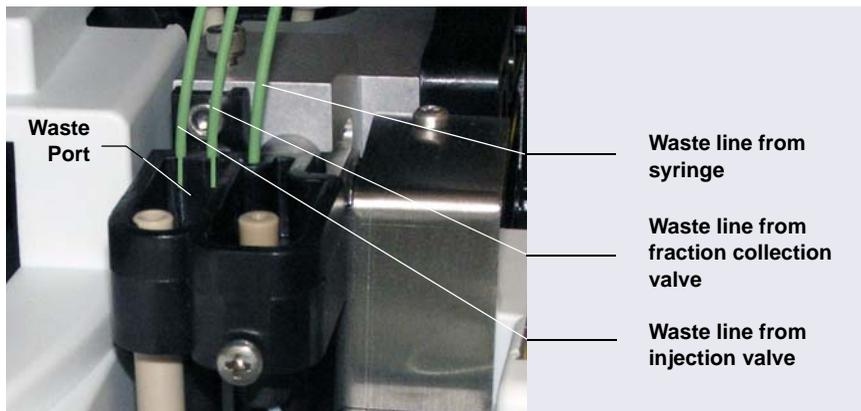
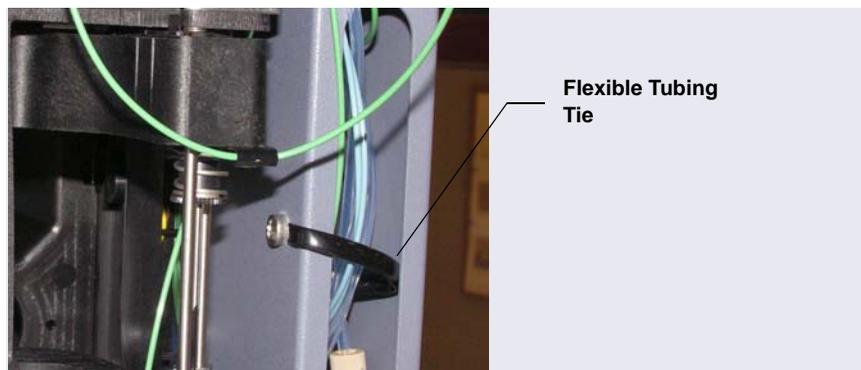

Figure D-7. Waste Lines Installed in the Waste Port
Figure D-8. Flexible Tubing Tie in Slotted Compartment
10. Route the waste line to the Dionex AS-AP waste port and insert the line into the round opening in the port (see Figure D-7). To ensure the waste lines do not interfere with needle arm movement, secure the excess tubing
with the flexible tubing tie in the slotted compartment next to the needle (see Figure D-8).
8. Route the waste line to the Dionex AS-AP waste port and insert the line into the round opening in the port (see Figure D-7). To ensure the waste lines do not interfere with needle arm movement, secure the excess tubing with the flexible tubing tie in the slotted compartment next to the needle (see Figure D-8).
10. Connect the bridge line between port **SYR** (6) on the injection valve and port **2** on the fraction collection valve.